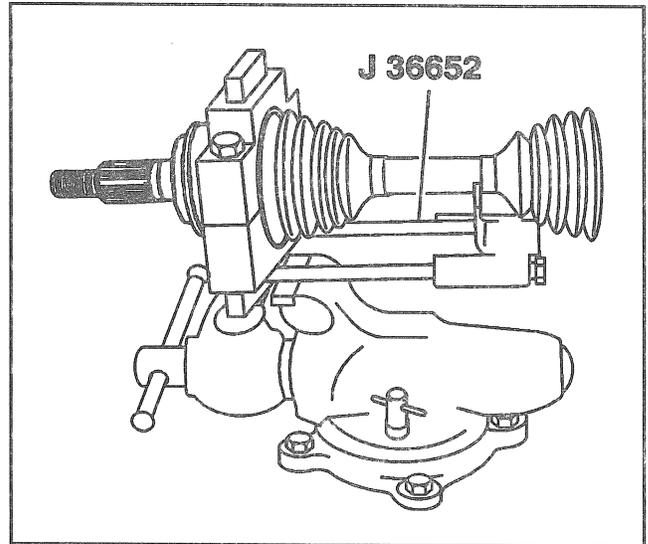

Figure 57—Installing Swage Ring
- b. Place the top half of the tool on the lower half of the tool and check for proper alignment (Figures 57 and 58).
- Make sure the seal, (2) housing, and (3) swage ring all remain in alignment (Figures 57 and 58).
Remove or Disconnect (Figures 57, 58, and 62 through 65)
- B. Place the top half of the proper size tool on the lower half of tool and check for proper alignment and dimension (Figures 57, 58 and 65).
- Make sure that the seal, housing and swage ring all remain in alignment (Figures 57 and 58).